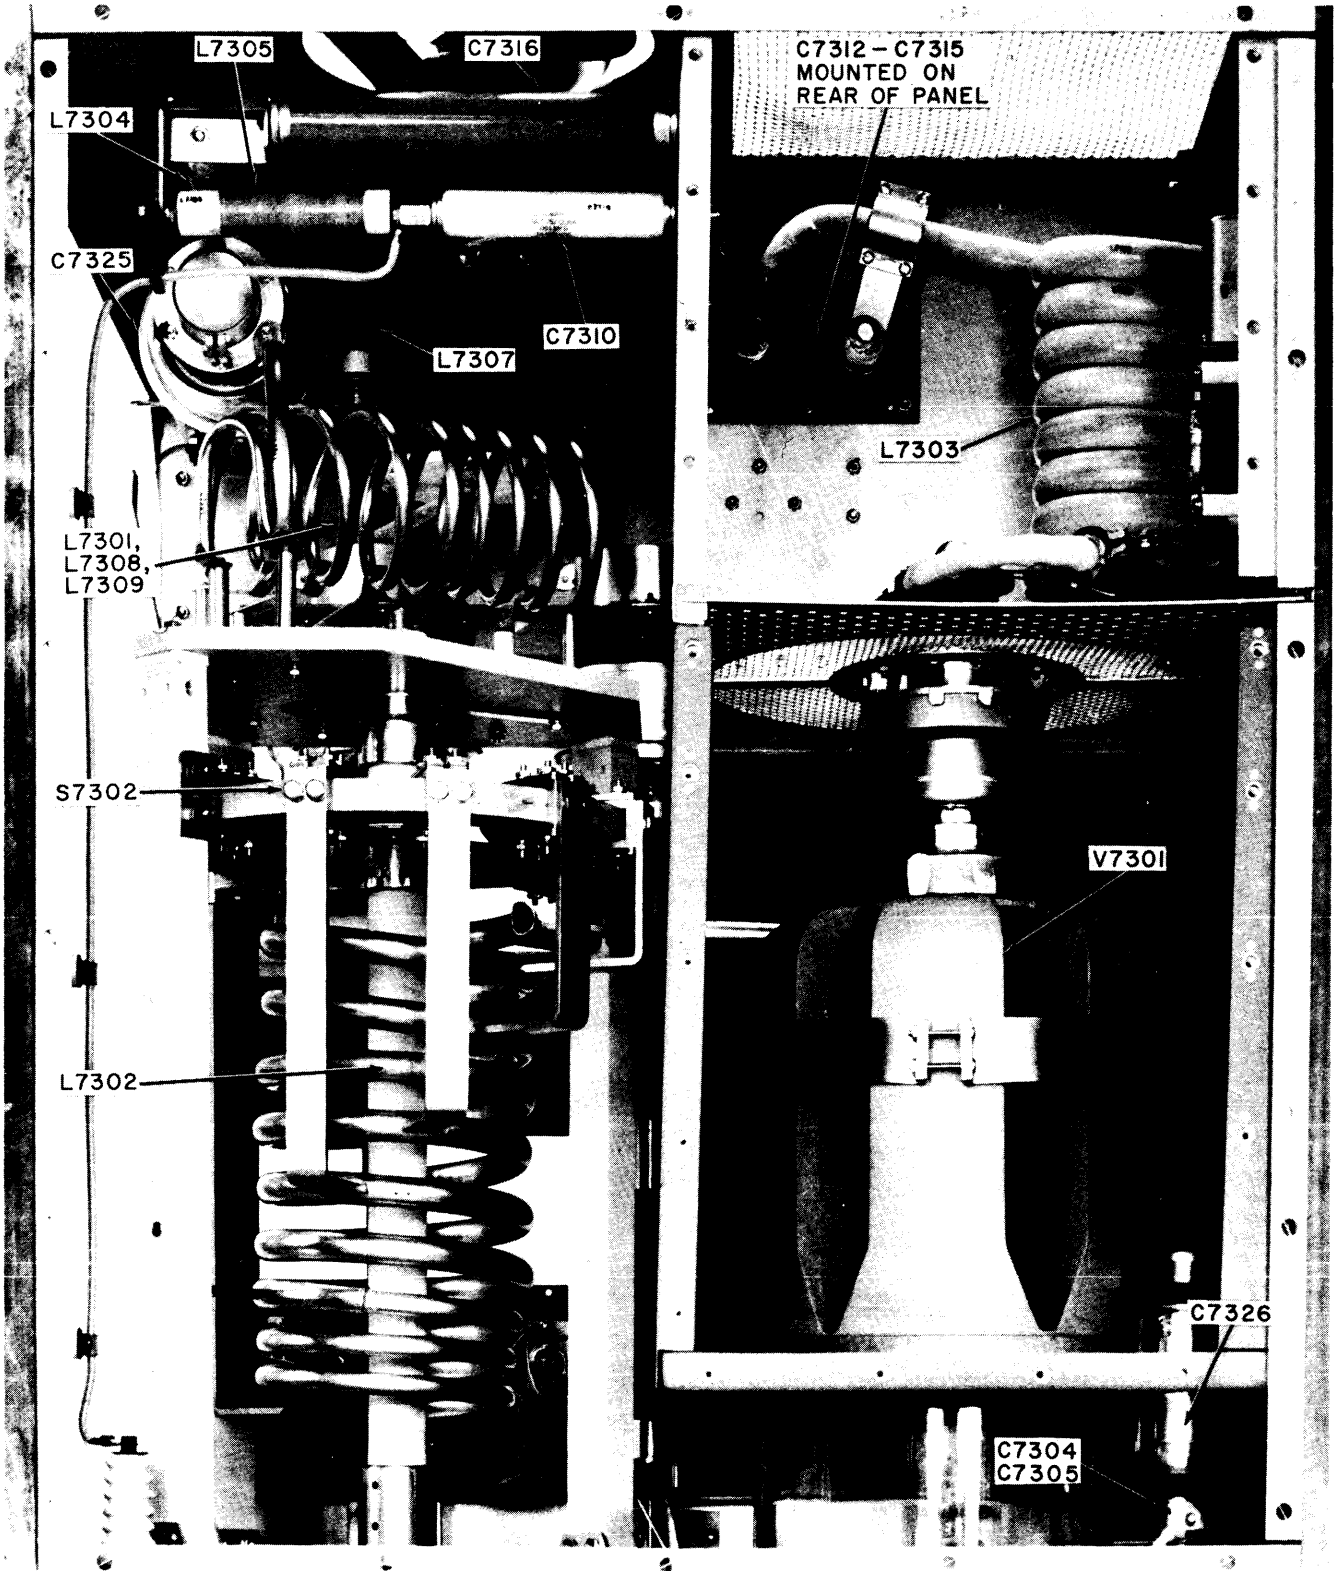

Figure 4-5-4. Rear View with Callouts, PA Capacitor/Coil/Gear Train Compartment, GPT-40K
b. LOCATION DATA. - Figures 4-5-4 through 4-5-7 show views, with callouts, of the principal components mounted on the PA frame chassis.